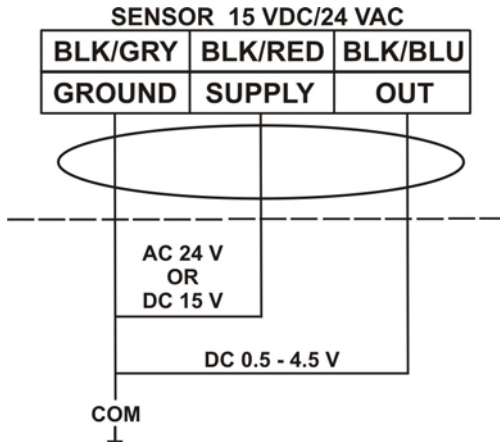

Figure 7: Connecting the Differential Pressure Sensor
2. Connect the tubing from the flow pickup device to the barbed fitting on the actuator (Figure 7).